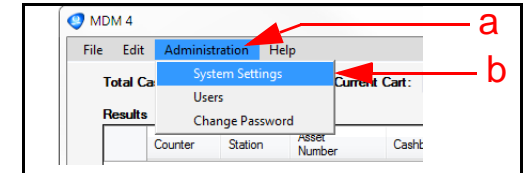

Figure 17 Select System Settings Menu 3
1. Click on the 'Administration' pull-down Menu on the MDM4 Main Screen (Figure 17 a).
2. Select 'System Settings' (Figure 17 b).